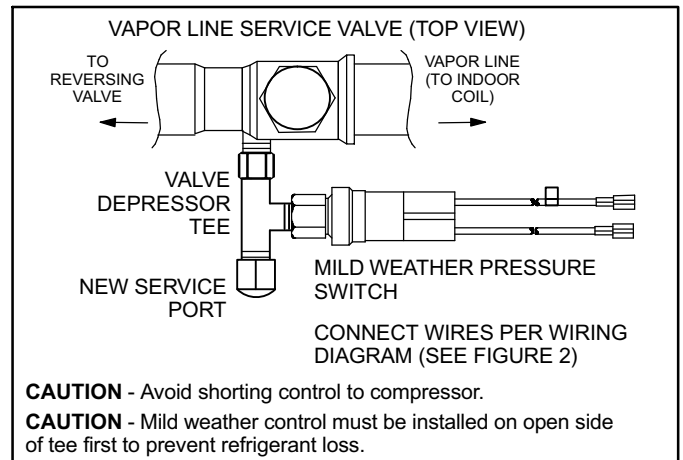

Figure 1. Typical Switch Installation
3. Install the valve depressor tee on the suction valve service port with the mild ambient switch attached. Run wires through provided conduit for protection (see figure 1).